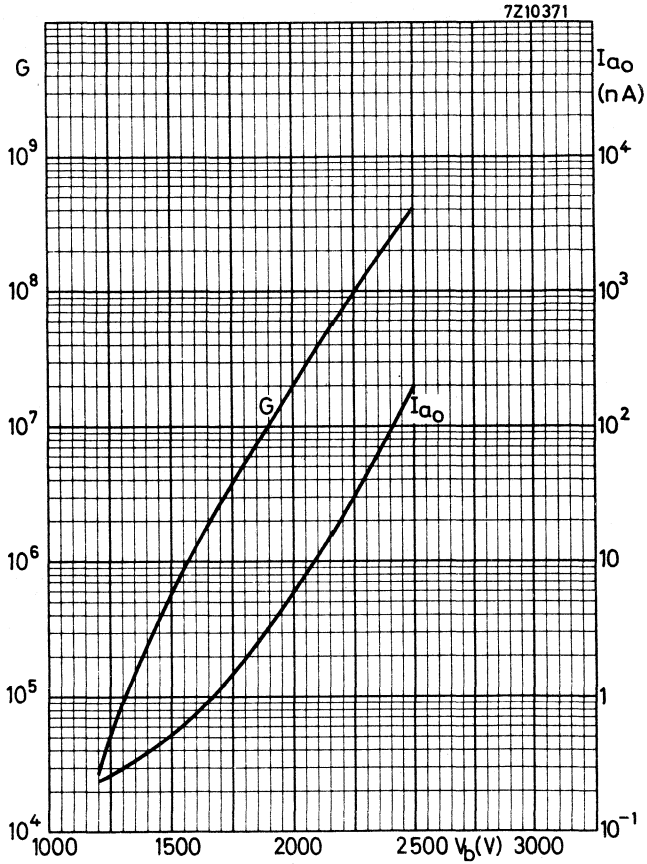

Fig. 1
- B. The multiplier system consists of 14 stages, providing a total current amplification of 10^8 at about 2250 V (see fig.1). The tube is capable of producing very strong peak currents (up to 1 A). Actually, the time constant at the output of the multiplier must be very small. Therefore it is necessary, taking into account the parasitic capacitances, to use a low load resistance. It is advisable to use a resistance-matched coaxial cable (e.g. 75 or 100 Ω). With this load the tube easily delivers pulses of tens of volts, so that an amplifier is rendered superfluous.